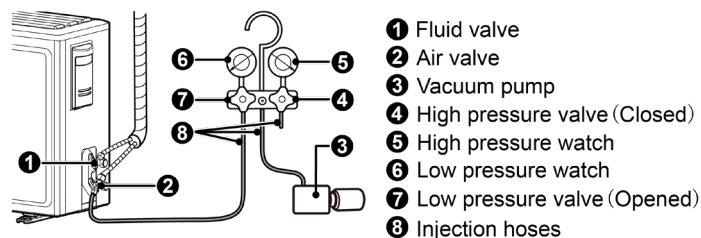

Figure 4-1 Vacuum pump connection
- Connect the perfusion hose with the vacuum pump, as shown in Figure 4-1.